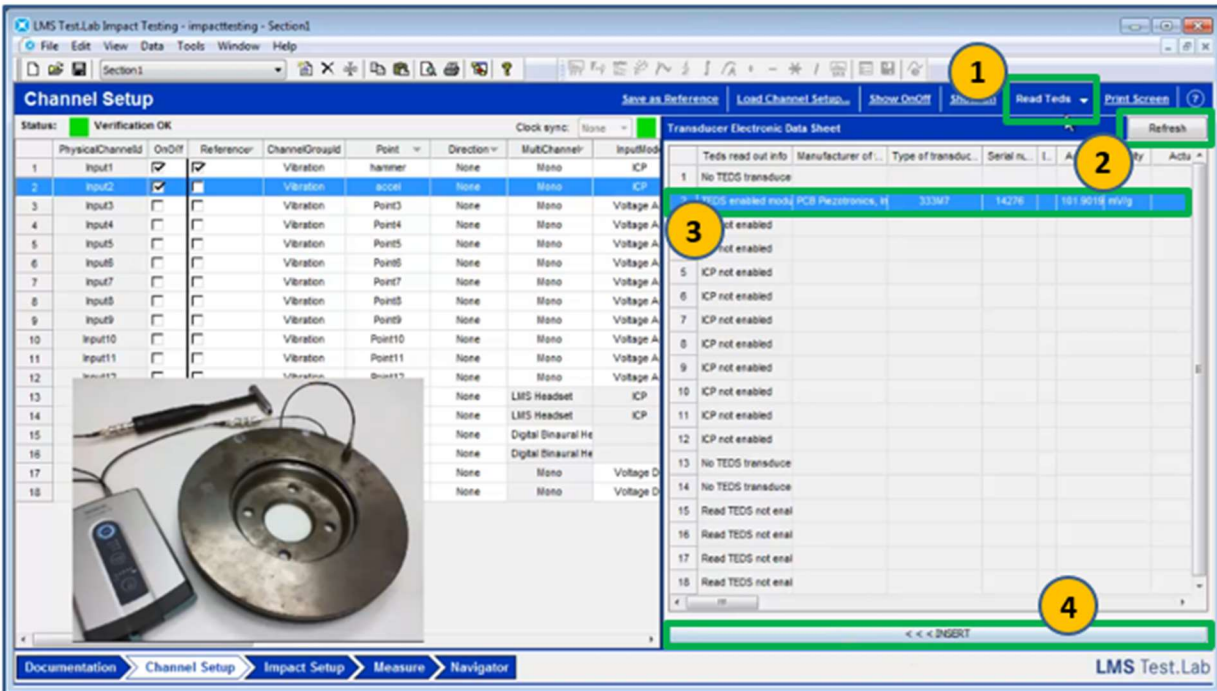

Figure 8: TEDS allows the reading the sensitivity, serial number, model number of the accelerometer directly from a chip embedded in the transducer
- **Actual Sensitivity:** Enter the calibration value found on the calibration sheet. For an accelerometer this will be in units of mV/g. If the accelerometer has a Transducer Electronic Data Sheet (TEDS) chip with the calibration value stored directly in it, it can be accessed by select "Read Teds" in the upper right corner as shown in Figure 8.